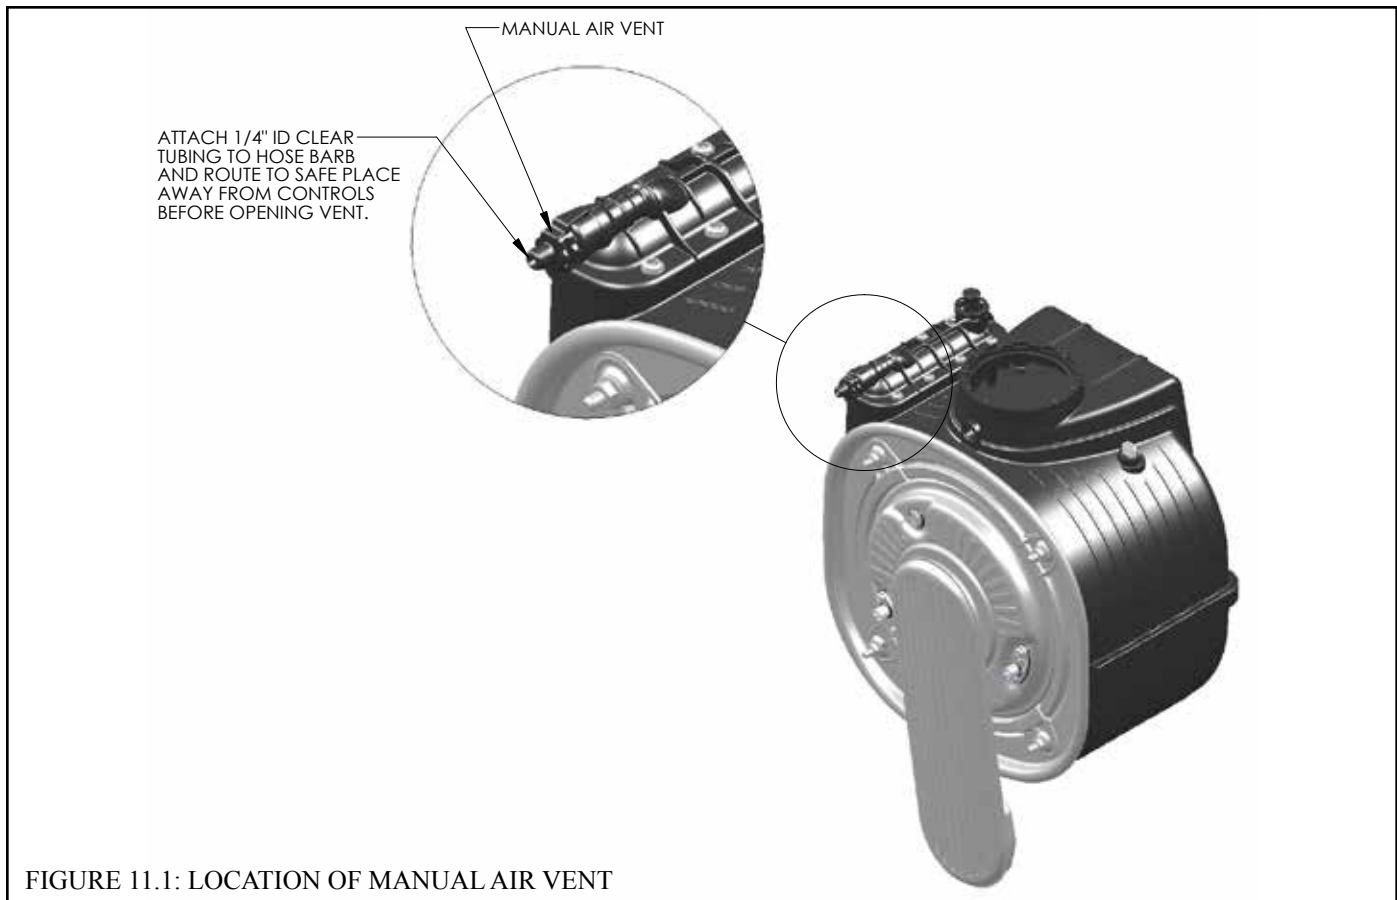

FIGURE 11.1: LOCATION OF MANUAL AIR VENT
- 6) Bleed air from the heat exchanger using the manual air vent in the top left side of the heat exchanger (Figure 11.1). To do this install a piece of 1/4" ID clear tubing over the hose barb and route the tubing to a location where water will not damage controls or nearby construction. Turn vent counter clockwise and allow heat exchanger to vent until a steady stream of water is observed. Close vent and remove hose.